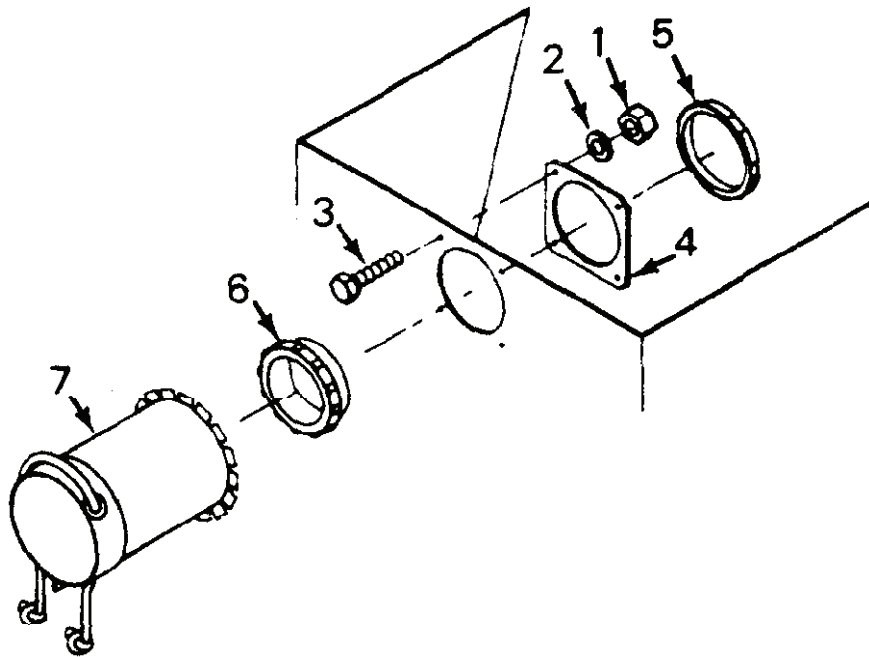

Figure 1. Dust and Moisture Sleeve
1. Remove nuts (Figure 1, Item 1), flat washers (Figure 1, Item 2), and screws (Figure 1, Item 3) securing sleeve plate (Figure 1, Item 4) to enclosure.
2. Remove locknut (Figure 1, Item 5) and bushing (Figure 1, Item 6).
3. Remove sleeve plate (4).
4. Remove dust and moisture sleeve (Figure 1, Item 7).
5. Install dust and moisture sleeve (7) and secure with sleeve plate (4), locknut (5), and bushing (6).
6. Secure sleeve plate (4) with nuts (1), flat washers (2), and screws (3).